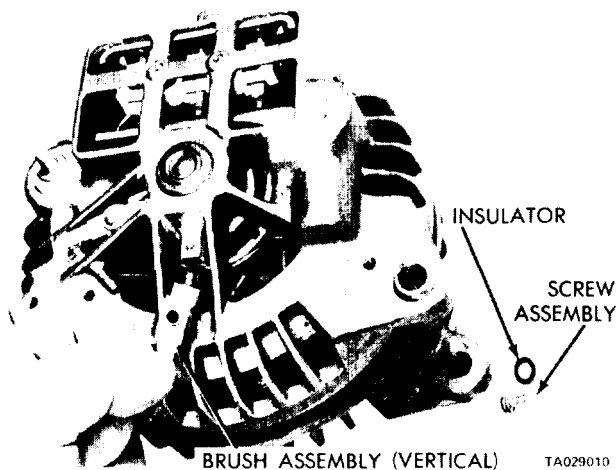

Figure 14-1. Removing Field Brushes.
(1) Remove the brush screws and insulating washers and lift the brush assemblies from the end shield (figure 14-1).